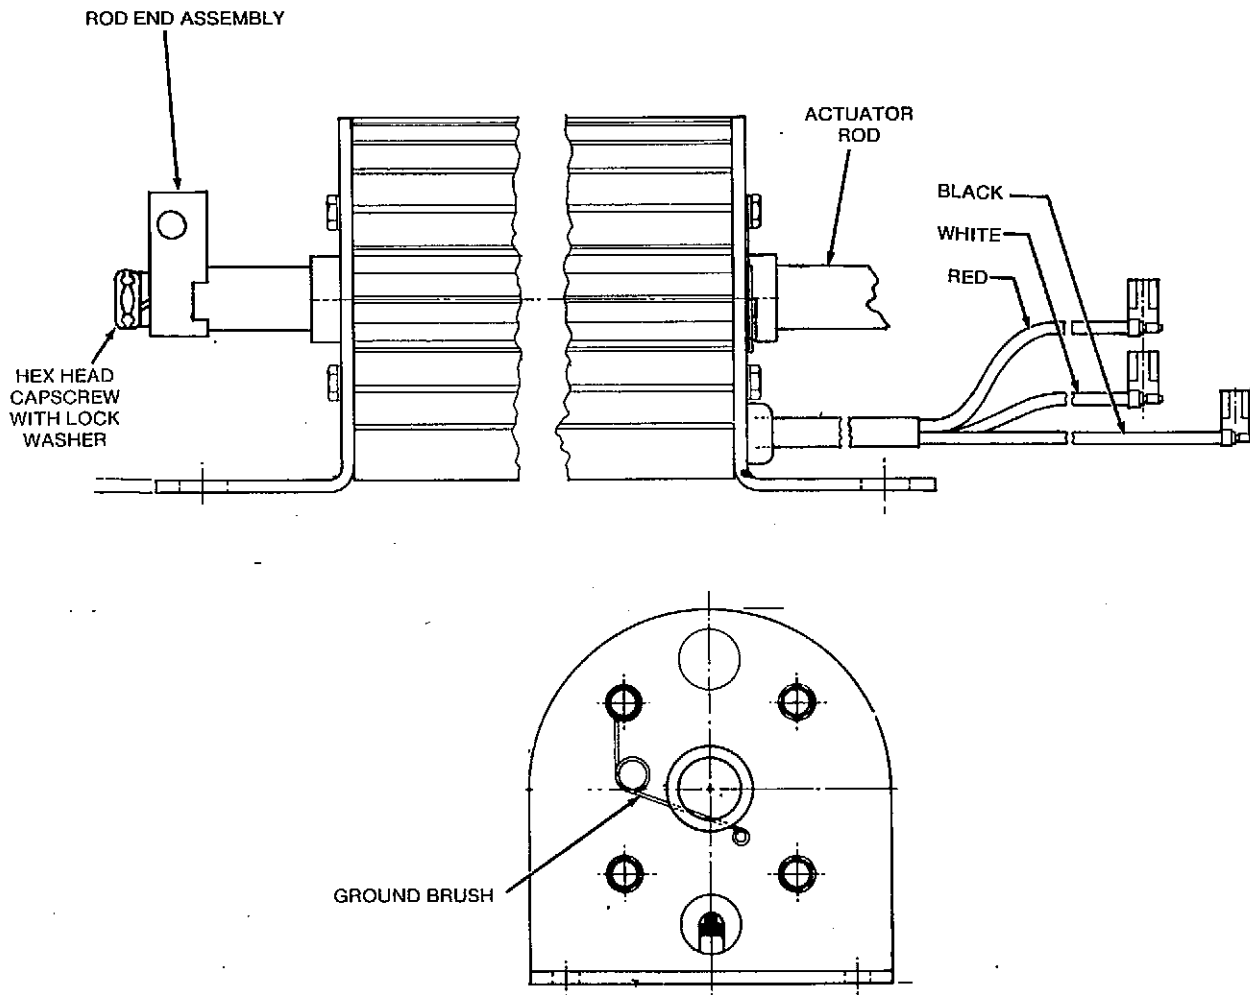

FIGURE 32. LINEAR ACTUATOR
2. Remove the hex head capscrews, lock washers, and rod assemblies from the end of the actuator rod (see Figure 32); and slide rod out of the actuator motor.
6. Place red plastic switch cover in position and secure with machine screws (4) and flat washers (4). Tighten to 25 to 30 in-lbs (2.8 to 3.4 N•m) torque.
7. Insert the actuator rod into the replacement actuator motor (see Figure 32). Hold the actuator ground brush up slightly to allow passage of the actuator rod.